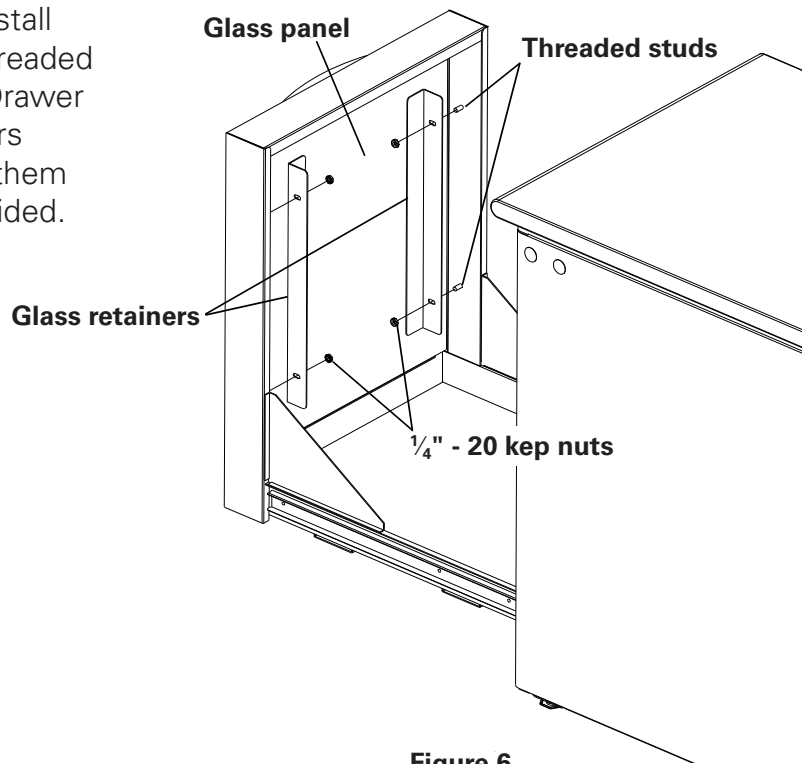

Figure 6
2. Hold the Glass Panel in place and install the two Glass Retainers onto the threaded studs located on both sides of the Drawer front. See figure 6. Slide the retainers against the Glass Panel and secure them using the four 1/4"-20 Keep nuts provided.